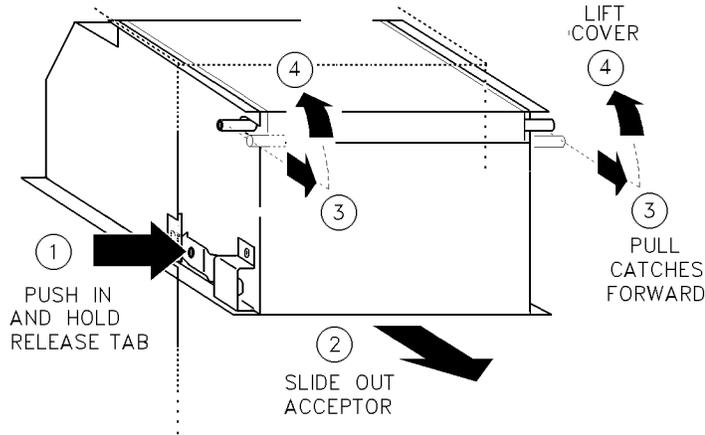

Figure 5-1 Removing and Opening Acceptor
2. Locate the release tab on the left side the acceptor. Press the tab inward, and while maintaining pressure on the tab, slide the note acceptor out of the chassis (Figure 5-1).